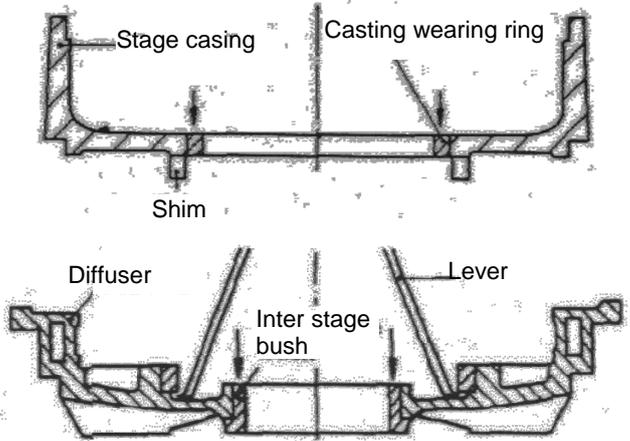

Fig. 02 Renewing the casing wear rings and stage bushes
1. Undo the allen grub screw, press the casing wearing rings in the stage casing and diffuser out of the fit, taking care not to damage the fit (see fig. 02).